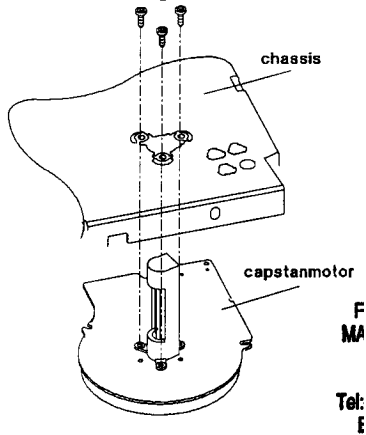

Fig. 7
- Remove the belt (pos.126) on the underside; then free the pin from the sensor print (see section 4.1.10). Lift sensor print part vertically (it is plug and socket connected to the capstan motor print). Move both sections of the sensor print clear of the capstan motor.
- Remove the three capstan motor fixing screws (Fig. 7) and withdraw the capstan motor downward from the drive assy.